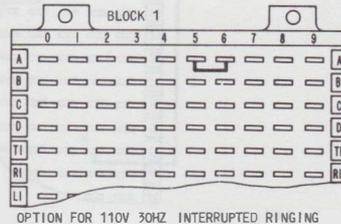

Fig. 14—X Option
4.12 The X option (Fig. 14) provides interrupted 110V 30-Hz ringing to operate station ringers when station codes are dialed. Option X consists of a strap on block 1 of the 626A panel between terminals 5 and 6 on row A.